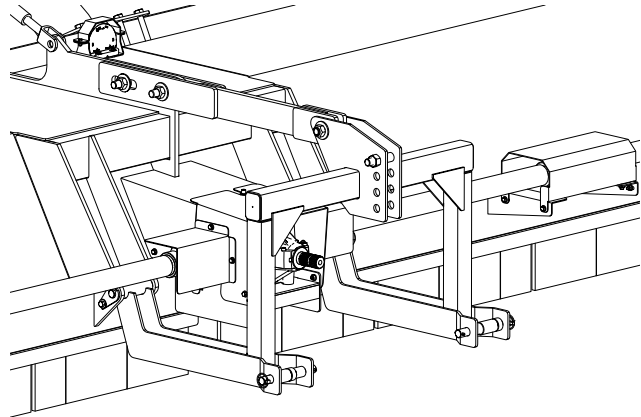

Figure 7. 3-Point hitch attachment points
6. Align the claws under the mounting pins (see Figure 7) while backing up.